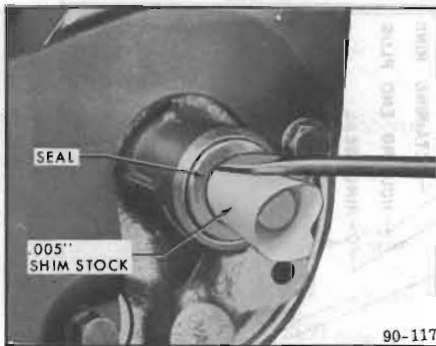

Figure 90-63—Removing Oil Pump Shaft Seal
5. Insert a piece of .005" shim stock (approximately 2-1/2" long) around shaft and push it past seal until it bottoms in pump housing. See Figure 90-63.
6. Remove seal but cutting metal body of seal with a sharp tool and prying out. See Figure 90-63. Extreme care must be used to prevent damage to shaft and pump housing.